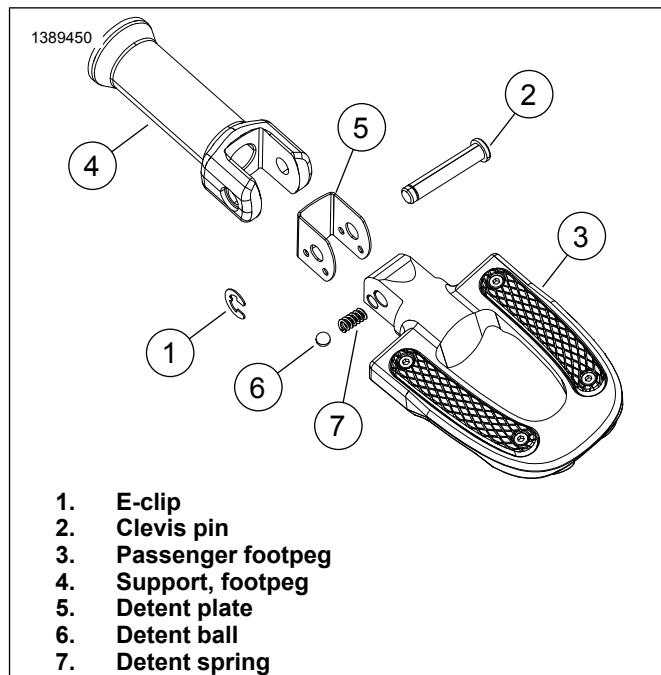

Figure 2. Remove/Install Footpeg Assembly
1. **Softtail models:** Figure 2 Remove clevis pin (2) and E-clip (1). Retain for later use.
1. Figure 2 Insert detent spring (7) into **new** footpeg (3).